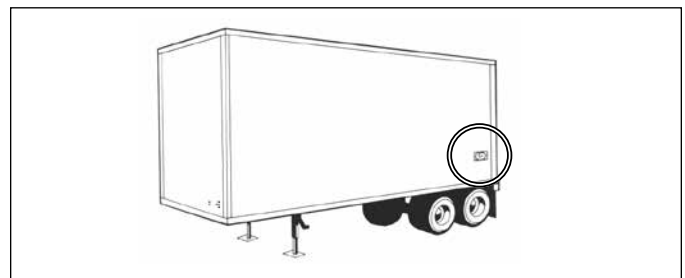

FIGURE 5 - TRAILER-MOUNTED ABS INDICATOR LAMP
- **Trailer ABS Indicator Lamp:** Controlled by the ECU to show the ABS status, the trailer ABS indicator lamp illuminates when a Diagnostic Trouble Code (DTC) is active. *See Figure 5.* If there are no ABS diagnostic trouble codes present, when ignition power is applied to the ECU, the lamp will illuminate as a bulb check lasting typically two (2), up to six (6) seconds at most.